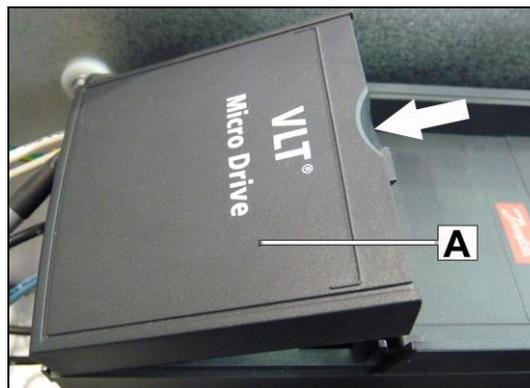

Fig. 3.16
3. Remove the cover **A** protecting the inverter connection terminals (Fig. 3.16).